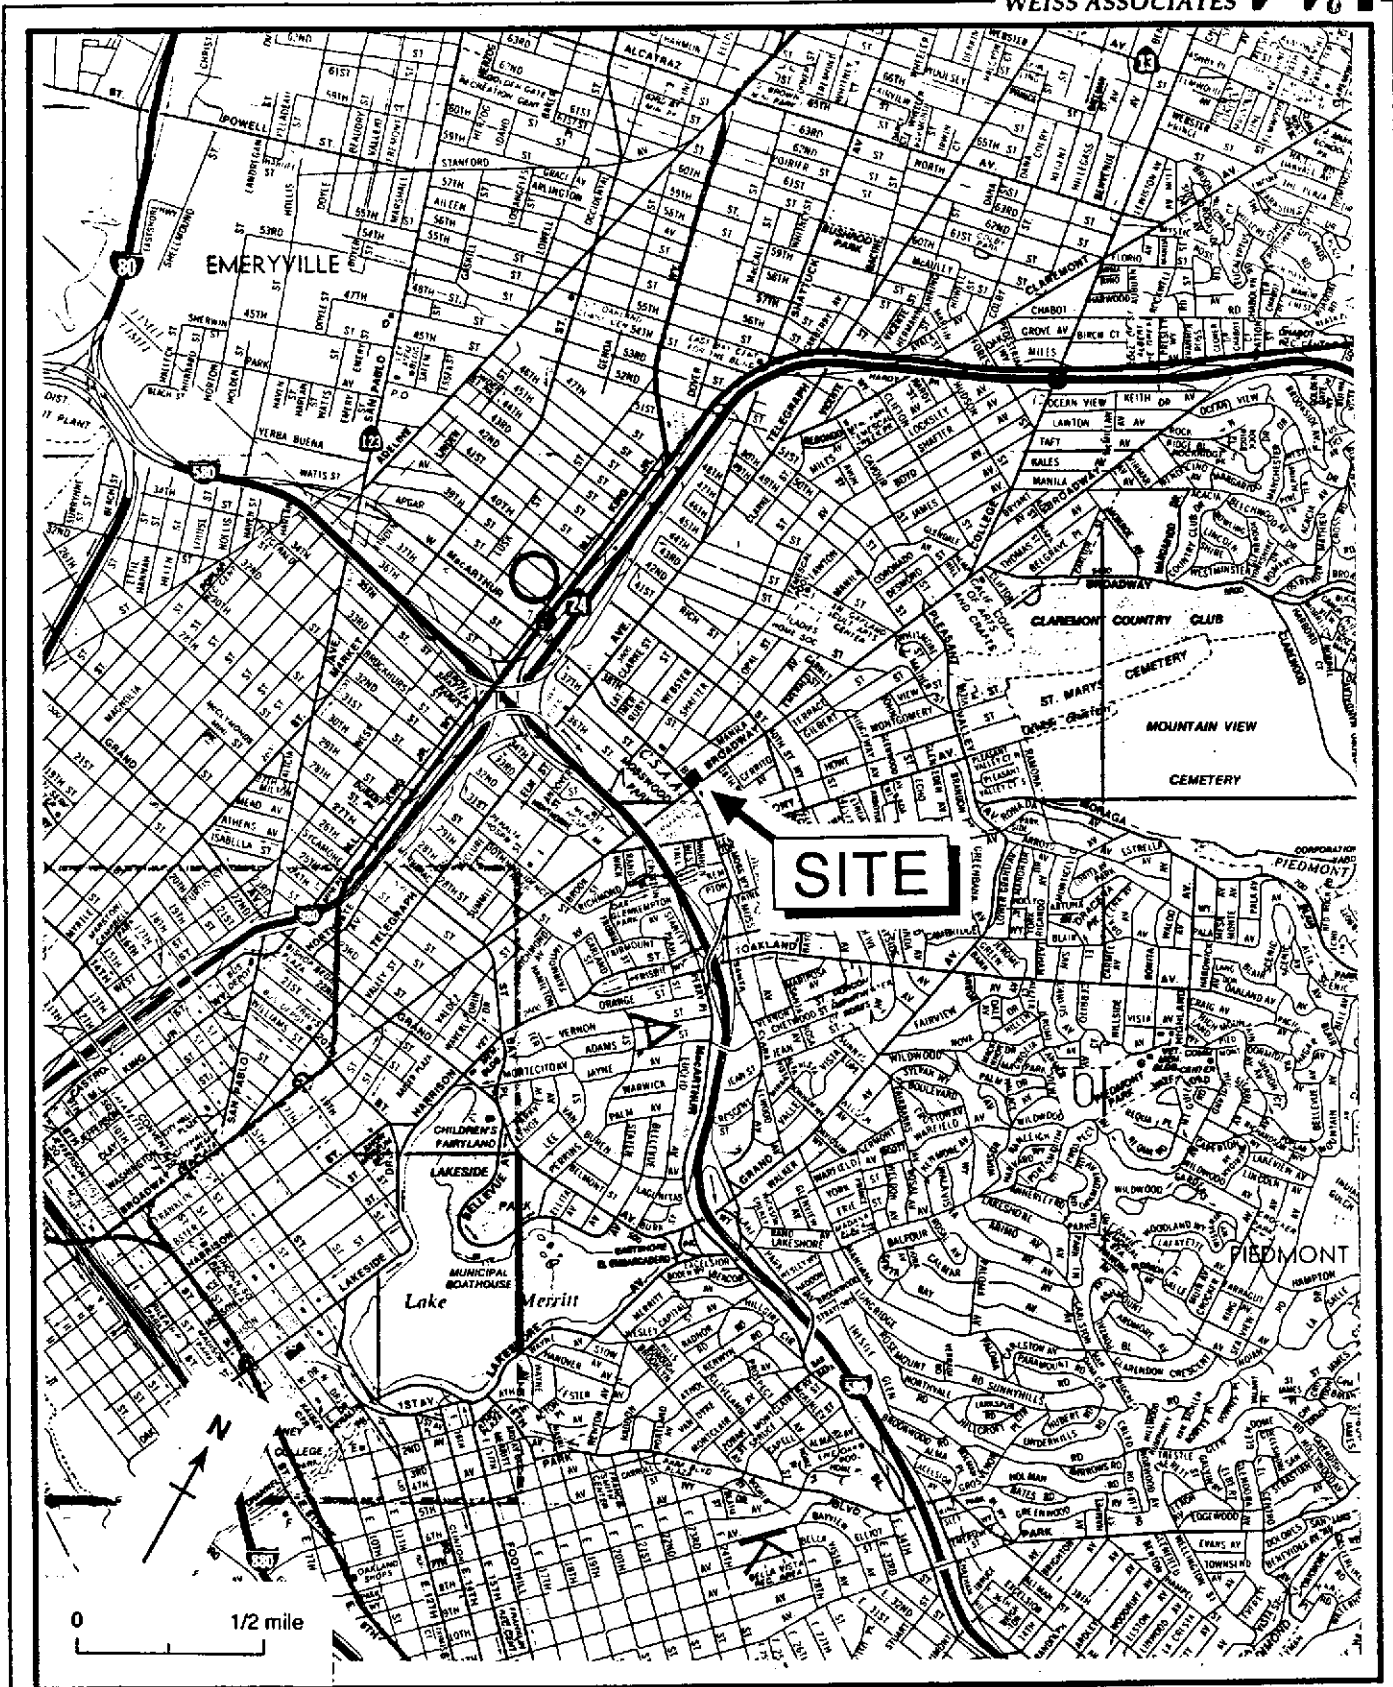
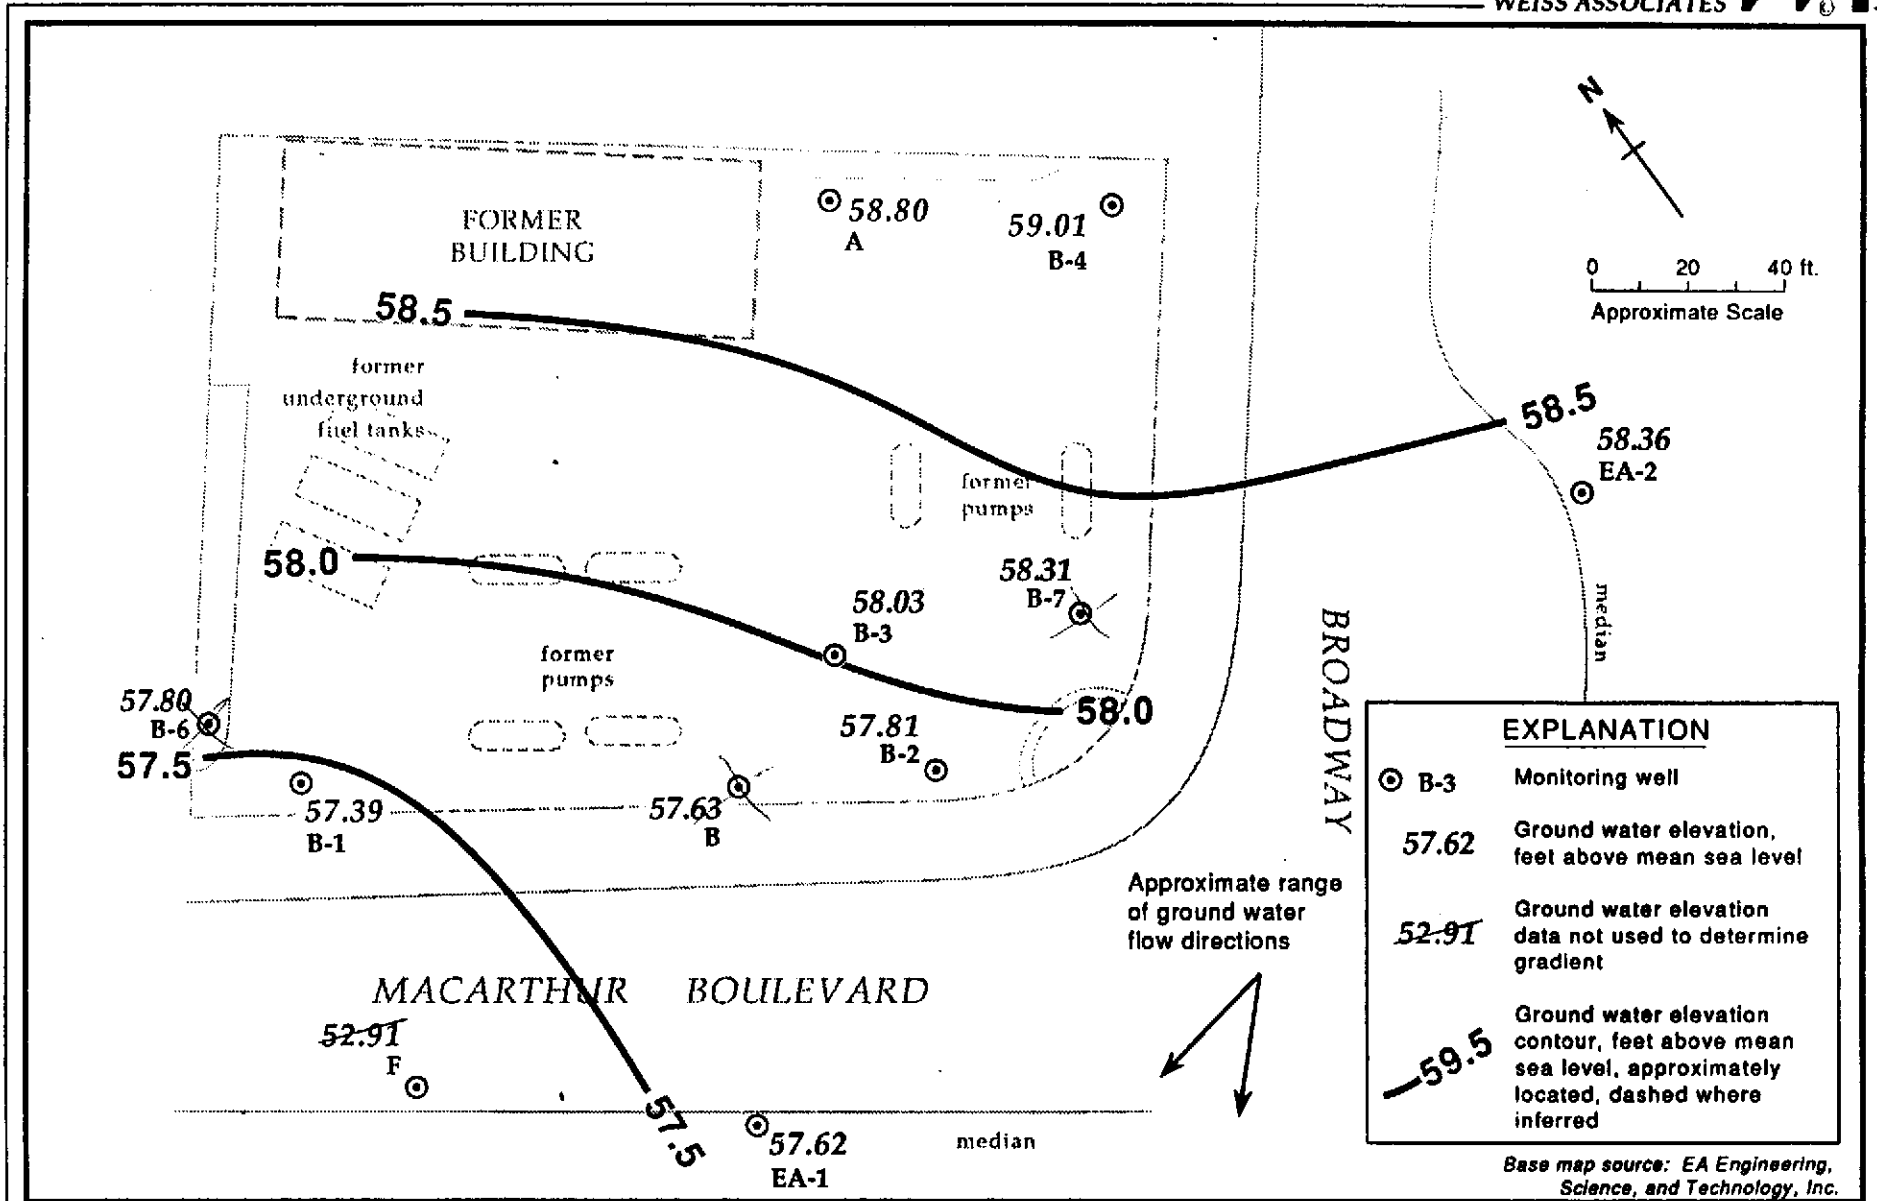

Figure 1. Site Location Map -Former Chevron Service Station #91026, 3701 Broadway, Oakland, California
Figure 2. Monitoring Well Locations and Ground Water Contours - November 13, 1990 - Former Chevron Service Station #9-1026, 3701 Broadway, Oakland, California
Weiss Associates (WA) collected ground water samples from six of eleven monitoring wells on November 13, 1990, as part of the quarterly ground water monitoring program at former Chevron Service Station #9-1026 in Oakland, California (Figure 1). Ground water samples from monitoring wells A, B-1, B-2 and B-4 (Figure 2) contained benzene above the California Department of Health Services (DHS) maximum contaminant level (MCL) for drinking water and samples from well B-2 contained ethylbenzene and xylenes above DHS MCLs. Samples from monitoring wells B-1, B-2, and B-4 contained toluene above the DHS recommended action level for drinking water.